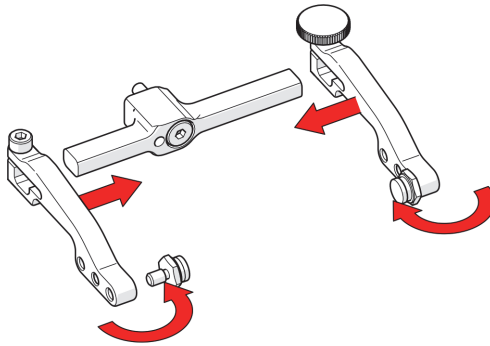

Figure 2-69 Attach arms and move buttons
5. Place the pivot buttons on the inside of the probe holder arms, using the 0.375 in. wrench (see Figure 2-69 on page 103).